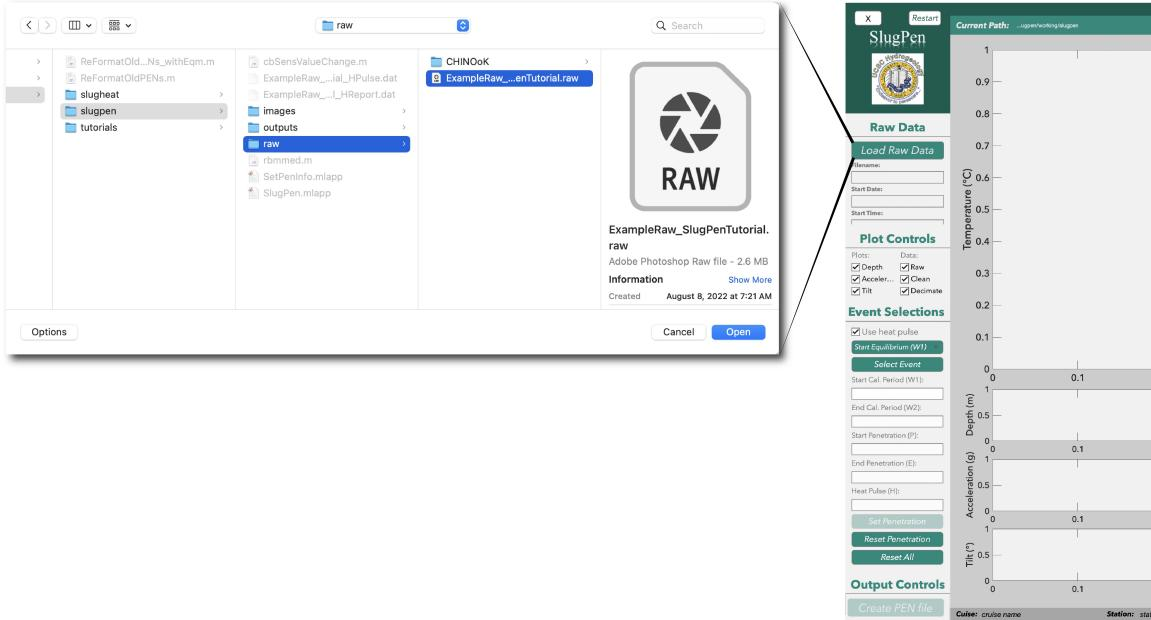

Figure 3: *SlugPen* example pop-up window to select a RAW data file that will be used to load the raw data from a single deployment into the program.
2. Select a RAW (.raw) file in the pop-up window (Fig 3), which defines all raw data recorded in a single deployment.